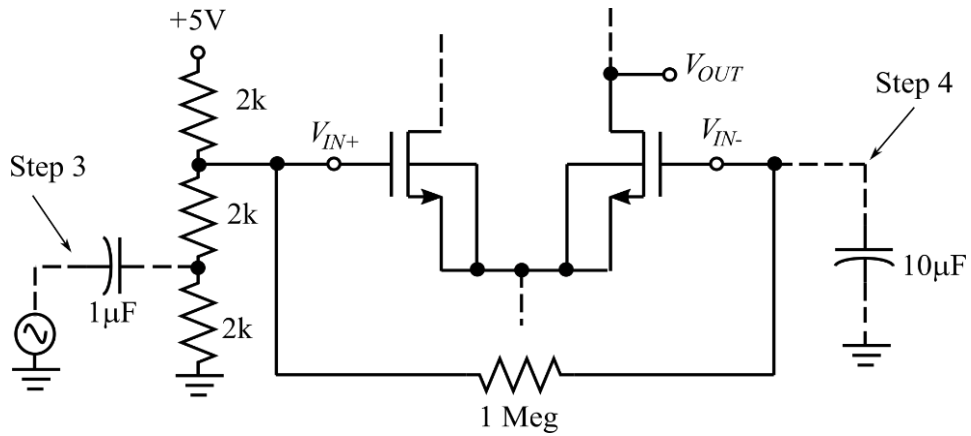

Figure 4: Test Set-up for Differential Amplifier Measurements.
Add the resistive bias/attenuator network shown in Figure 4.
3. Add the 1 μF coupling capacitor and generator as shown in Figure 4. Set the generator frequency for 1 kHz. Slowly increase the generator amplitude until the input amplifier's input voltage is about 1 volt peak-to-peak. Look at the voltage waveform at the output (**save the oscilloscope screen for both input and output waveforms**). The amplitude should be very small if the amplifier is working right and rejecting this common-mode signal.